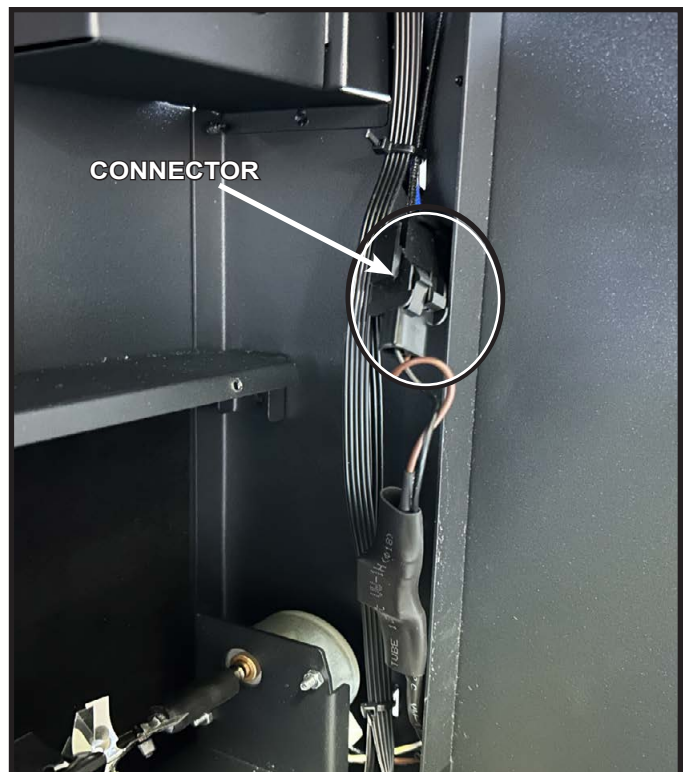

Figure 16
8. Disconnect the electrical connector to the motor. See Figure 16.
13. Reinstall the motor and bracket with three screws. See Figure 16.
14. Install the replacement (or existing) rotisserie rod. Align the rubber coupler with the motor shaft. Shift the rod to the right until the rubber coupler fully engages the motor shaft on the right side. See Figure 16. Replace the two screws for the rotisserie center support. See Figure 16.